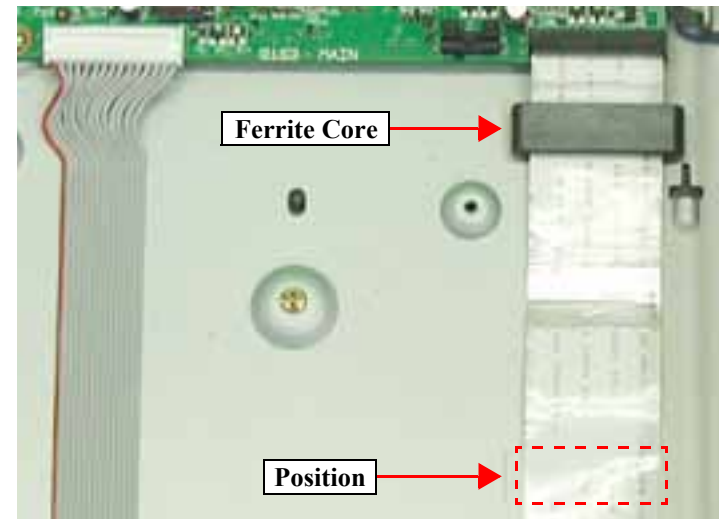

Figure 4-15. Installation of Carriage FFC
- Pass the Carriage FFC through the Ferrite Core and adhere it with a two-sided tape at the position shown in Figure 4-15.
Pass the Carriage FFC through the Ferrite Core, and adhere it with a two-sided tape at the position shown in Figure 4-15.